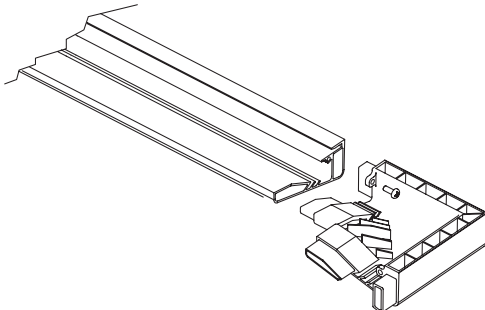

Figure 1
- ① Clean area and place frame assembly pieces face down. Insert plastic corner pieces into ends of aluminum frame extrusions as indicated in Figures 1 through 4. Secure each corner to each frame extrusion by threading one #10-24 fastener through hole in plastic corner and into rounded slot in aluminum frame extrusion.